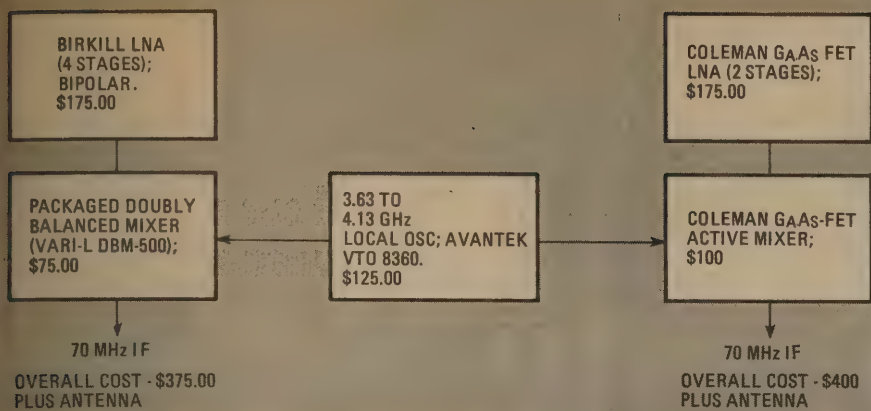

FIG. 2—TWO DESIGN APPROACHES to receiving satellite broadcasts. The Birkill approach is shown in option 1 while the Coleman approach is shown in option 2.
Let's stop for a minute and study Fig. 2. To appreciate what is involved in a satellite television receiver, we ought to understand what it has to do.
Back now to Fig. 2. To keep unwanted energy out of the receiver (and there is plenty of unwanted or off-frequency energy floating around microwaves these days) the typical commercial receiver has a pre-selector (either totally passive or active plus passive) at the input. This is followed by a "high frequency-mixer" that combines the incoming (3.7 to 4.2 GHz) signals with a local oscillator signal generated within the receiver to produce a new lower frequency (IF) output. Gain is
FIG. 2—MOST COMMERCIAL RECEIVERS use high-gain (50 dB) LNA's mounted at the antenna capable of driving 4-GHz region signals through several hundred feet of 7/8ths inch line to the indoor receiver. Typical receiver has either double conversion (approach shown here) or single conversion directly to IF. In receiver design shown, a 3.7- to 4.2-GHz preselector often has enough gain to bring the input RF level up to an adequate voltage to drive the first mixer. Relatively high-level high-frequency local oscillator (3.2 GHz is shown in example) may measure +10 dBm or more. With local oscillator on low side, high IF of 500-1,000 MHz is attained to drive second mixer that down converts to 70-MHz low IF. Oscillator for second local oscillator is voltage- or capacitive-tuned to produce 70-MHz low IF with inputs over full 500-1,000 MHz range. FM demodulator (discriminator) produces basic baseband signal that processes up for video to a de-emphasis circuit and video amp, then to a video clamp to eliminate the 30-Hz energy dispersal waveform, and then to a filter circuit. Audio processes down through separate (6.8 MHz) discriminator, de-emphasis network and audio amplifier.
Electronic gain is least expensive to come by at the lowest frequency to be used in the RF portion (the 70 MHz IF) but unfortunately we cannot place all of the gain here. Some gain must go at 4 GHz as well. In Fig. 2 we see two options open to us.
2. In *option one* (Fig. 2) we could build a four-stage bipolar LNA (the so-called Birkill HXTR series LNA named after its developer Steve Birkill), follow this with a state-of-the-art doubly-balanced (passive) mixer such as the VARI-L DBM 500 4 GHz to 70 MHz (IF) package, and end up at 70 MHz with a total cost to that point of \$675 including the antenna.
3. In *option two* (Fig. 2) we can build a two-stage Coleman GaAs-FET LNA and follow this with a single-stage Coleman GaAs-FET active mixer, again ending up at a 70 MHz IF for a total material cost of \$700 including the antenna.